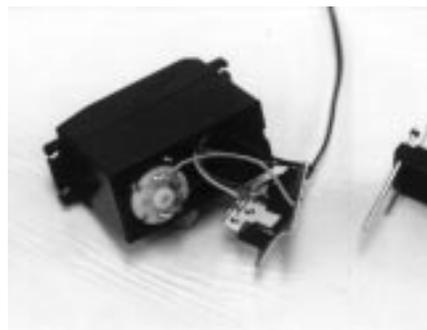

Figure 3. Using a small screwdriver, gently pry the integrated circuit board out of the case.
3. Carefully pull out the printed circuit board (Figure 3). Inside you will see a motor and a pot. The pot is deep inside the case. It has three wires soldered to it. (Figure 4)